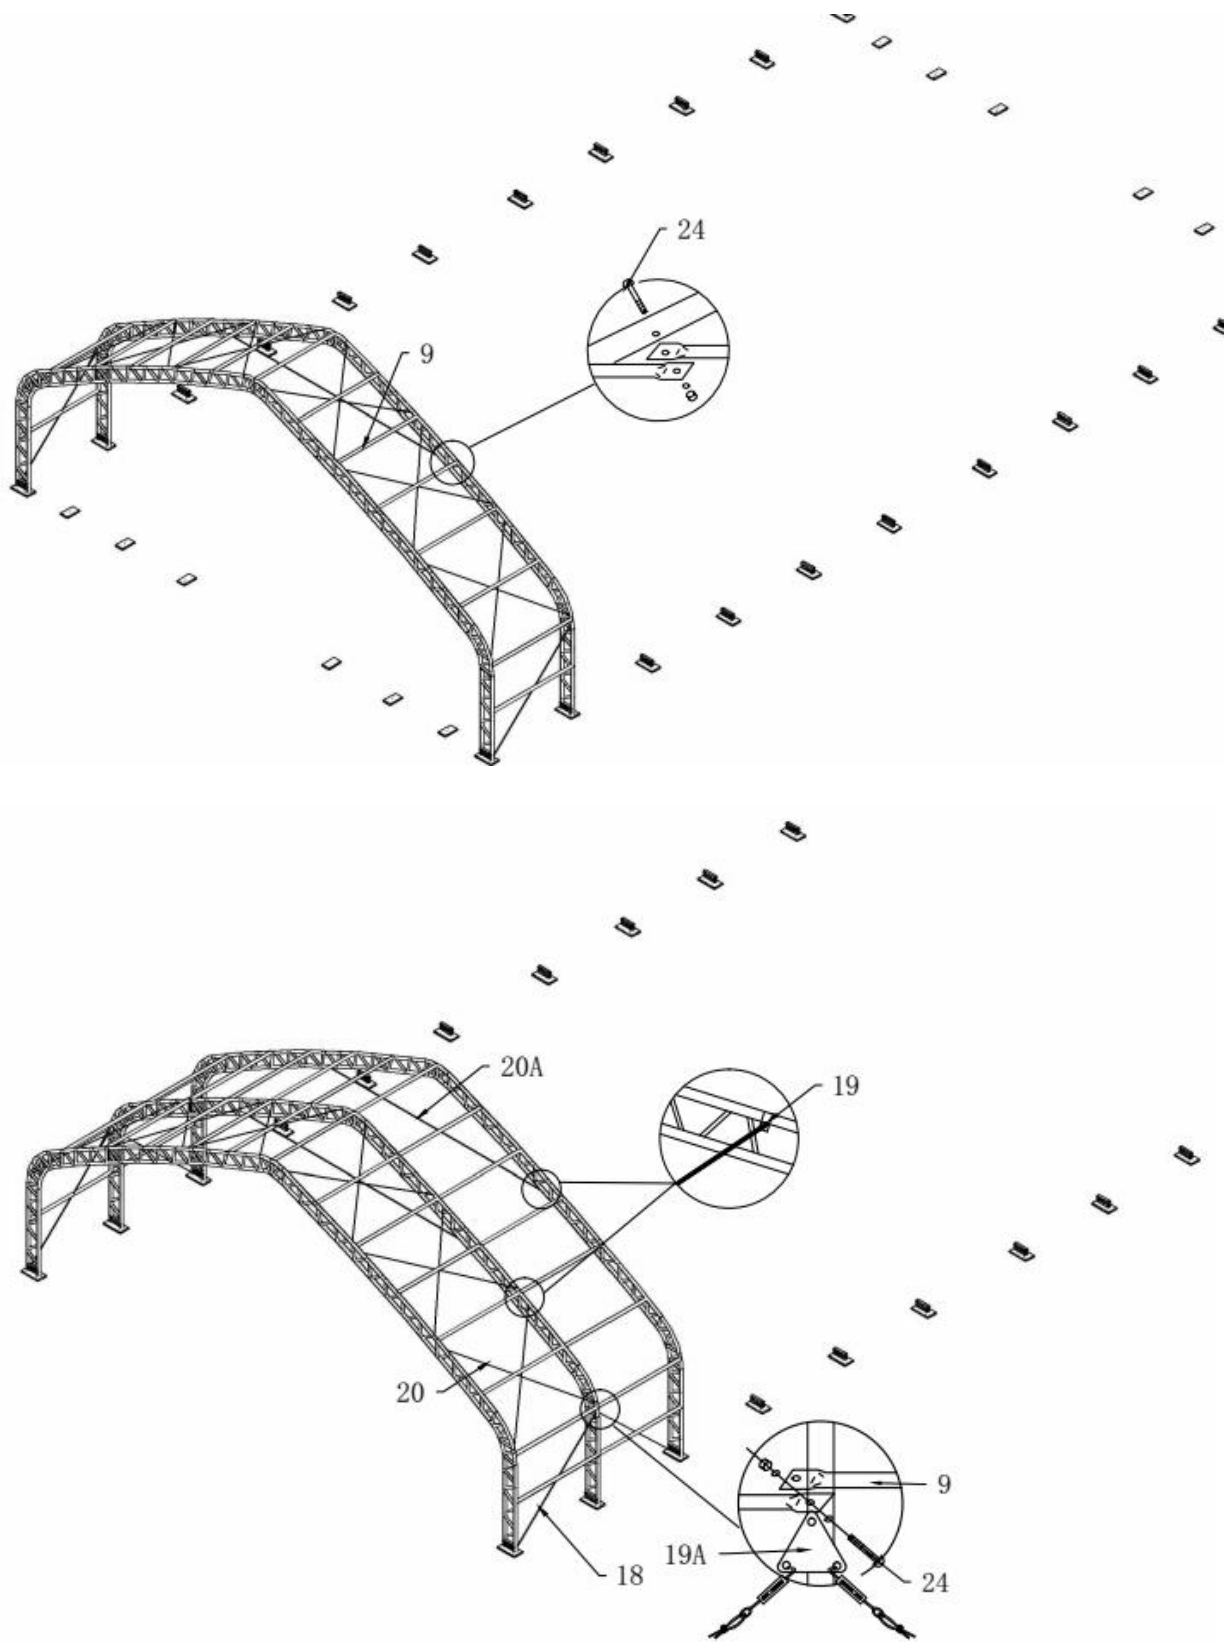

Figure 4
2. Connect Purlin(No.9) to arch by using Bolt 12x80(No.24) by turns(see Figure 4), then connect the Steel wire(No.18 and No.20) on top and side by using Clips(No.19) and Triangle(No.19A)(see Figure 4)